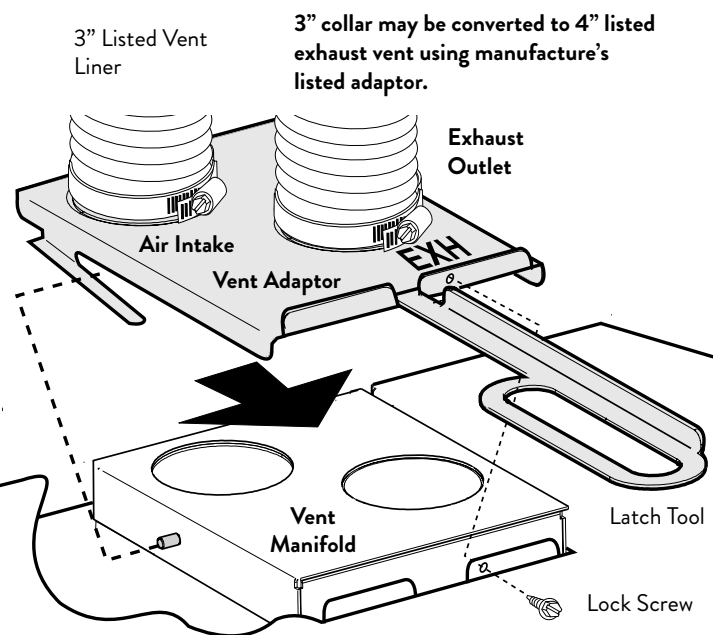

Figure 9. Vent Adaptor connection.
1. Refer to fig. 9. Remove the two Lock Screws from the Vent Adaptor Panel and to detach the panel from the firebox. Keep the screws for reinstallation.